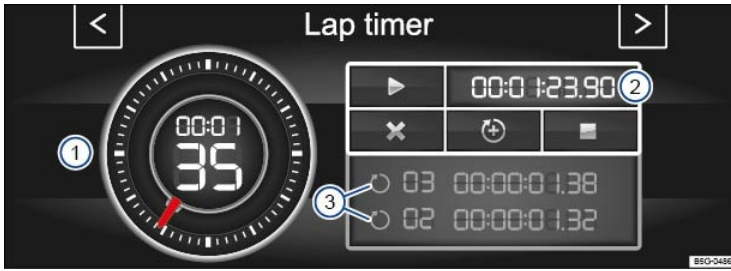

Fig. 22 In the Infotainment system: Performance Monitor lap timer/stopwatch.
Key to ⇒ Fig. 22 and ⇒ Fig. 23 :
The stopwatch has two different measuring functions. The stopwatch in the outer ring of the display (with timer needle) ⇒ Fig. 22① can measure up to 60 second. The digital display in the center of the stopwatch shows the elapsed hours, minutes, and seconds. The seconds appear as large numbers.
The digital display on the right side ⇒ Fig. 22② shows the current lap split time in 1/100 second intervals. If the lap timer is not being used to track split times, both digital displays show the same time.
Function	Action ⇒ Fig. 22 and ⇒ Fig. 23
Show the intermediate time in the stopwatch display:	<p>Tap button  ⑨.</p> <p>The intermediate time (the moment the button is pressed) is shown for a few seconds in the center of the stopwatch ⇒ Fig. 22①. After the brief pause, the current time resumes in the center of the stopwatch.</p>